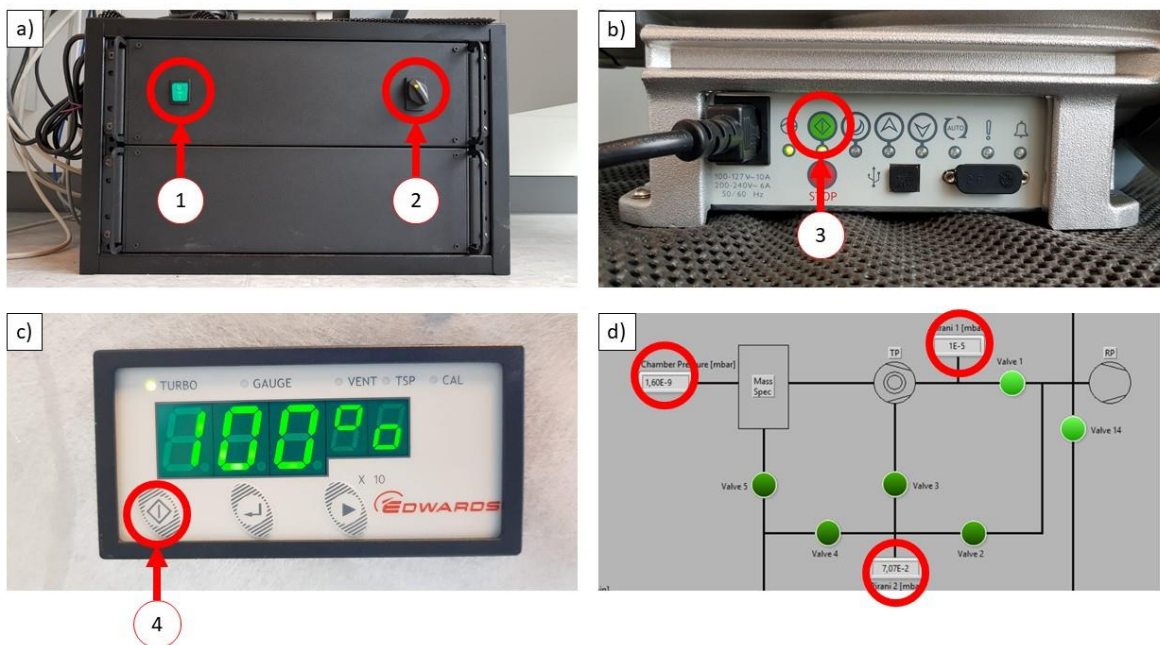

Figure 24. Instrument start-up
- Turn the electronics on using the power button on the front panel (step 1 in Figure 24)
- Turn the switch on the front panel (step 2 in Figure 24)
- Turn on roughing pump by pressing the green button on the pump controller (step 3 in Figure 24).
- Turn on turbo pump by pressing the power button on the front panel controller (step 4 in Figure 24)
- Press button 4 in Figure 24
- Switch the electronics control box off. First the rotating switch (marked 2 in Figure 24), then the main power button (marked 1 in Figure 24).